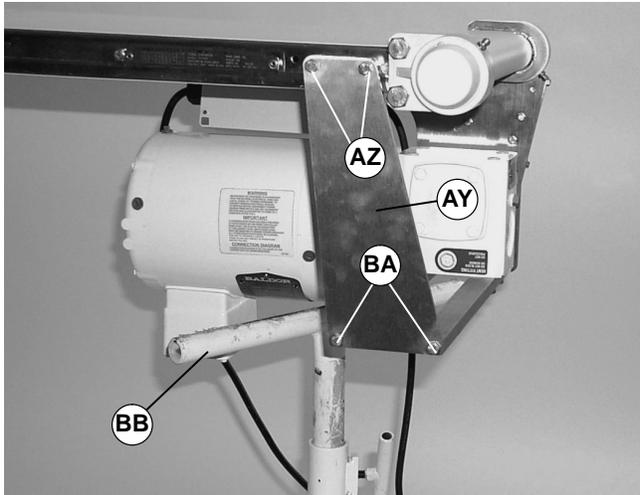

Figure 25
**NOTE:** For conveyor with a Heavy Load Bottom or Top Gearmotor Mounting Package, bracket (AY of Figure 25) must be removed.
- Remove two M6x30 mm hex head cap screws and spacers (AZ).
- Remove two M6x16 mm hex head cap screws (BA).
- Remove bracket (AY).
<p>The weight of the gearmotor is all on one end of the conveyor which could cause it to tip off the stands when the mounting clamp plates are loosened. Be sure to provide support (BB of Figures 25 and 26) underneath the gearmotor while changing the belt.</p>
2. Place a temporary support (BB of Figures 25 and 26) under gearmotor mounting package.
- For a conveyor with a Heavy Load Bottom or Top Mounting package, install bracket (AZ of Figure 25).